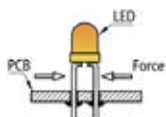

Fig. 10
7. After soldering or other high-temperature assembly, allow the LED to cool down to 50°C before applying outside force (Fig. 10). In general, avoid placing excess force on the LED to avoid damage. For any questions, please consult with Kingbright representative for proper handling procedures.